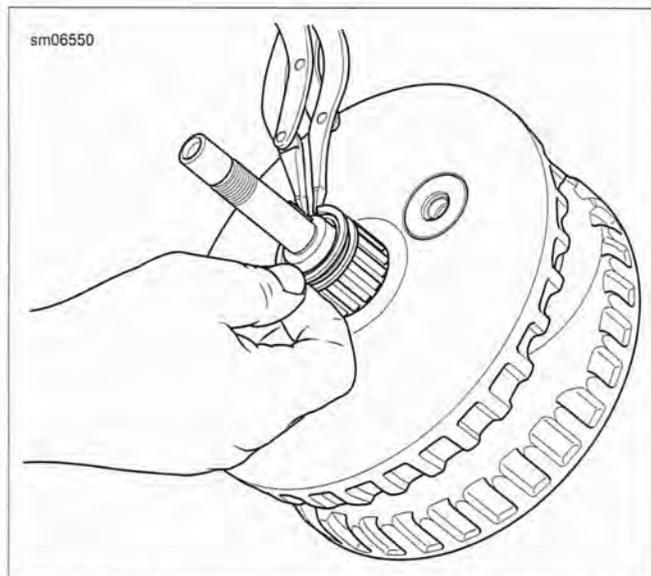

Figure 3-143. Installing Pinion Shaft Bearing and Retaining Ring
- See Figure 3-143. Using TRANSMISSION SHAFT RETAINING RING PLIERS (Part No. J-5586-A), install **new** retaining ring in groove of pinion shaft bearing inner race. Make sure retaining ring is fully seated in groove.